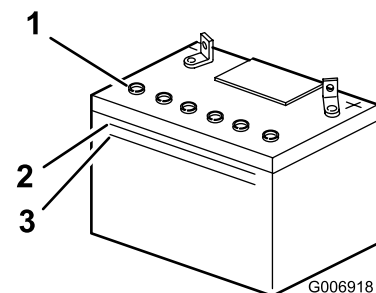

Figure 25
2. Look at the side of the battery. The electrolyte should be up to the Upper line (Figure 25).
Note: Do not allow the electrolyte to fall below the Lower line (Figure 25).
3. Remove the vent caps from the battery (Figure 25).
4. Slowly pour distilled water into each battery cell until the electrolyte level is up to the Upper line (Figure 25) on the battery case.
5. Wait 5 to 10 minutes after filling the battery cells. Add distilled water, if necessary, until the electrolyte level is up to the Upper line (Figure 25) on the battery case.